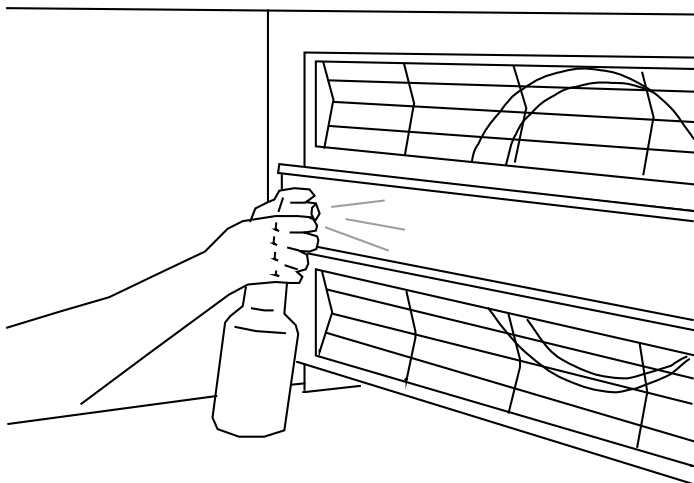

Figure 4-20.
4. Spray all interior surfaces, **except the fan area**, with Kote. Cover all areas well. Refer to Figure 4-20. Be sure the oven is dry before spraying. Kote does not work well on wet surfaces. A thorough spraying with Kote is your best tool for easy cleaning because it prevents grease splatters from baking on. Areas that are not sprayed with Kote will need hard scrubbing rather than light cleaning at the next weekly cleaning.